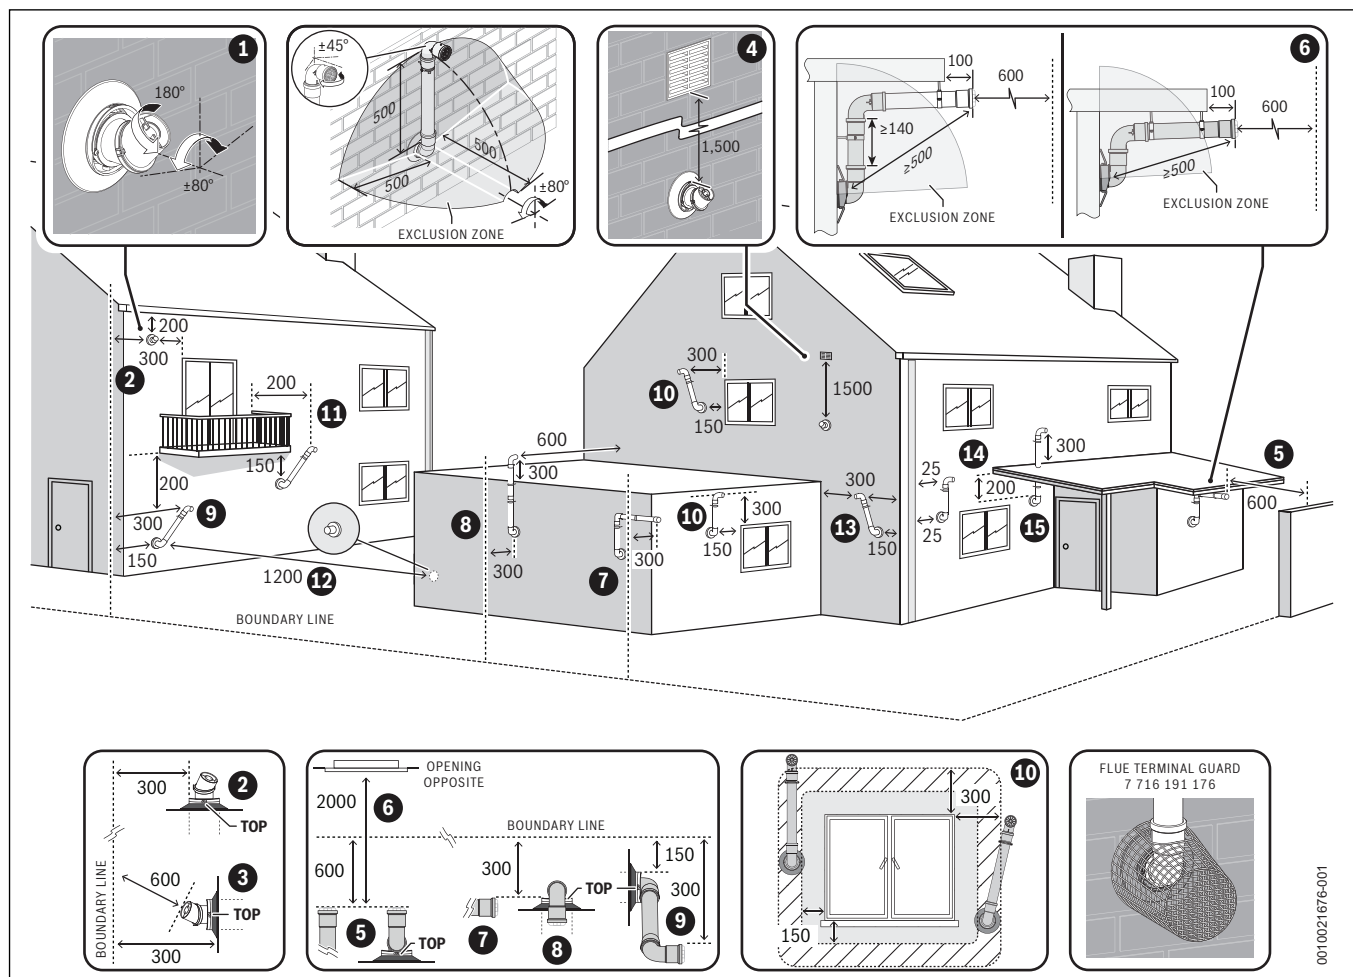

Fig. 28 Plume re-redirect and plume management terminal positions
- ▶ Refer to "Horizontal flue terminal positions" for all concentric flue terminal positions unless the flue position is specified in figure 28 "Plume re-redirect and plume management terminal positions".
Key to figure 28 - Plume re-direct terminal positions:
Key to figure 28 - Plume management terminal positions: